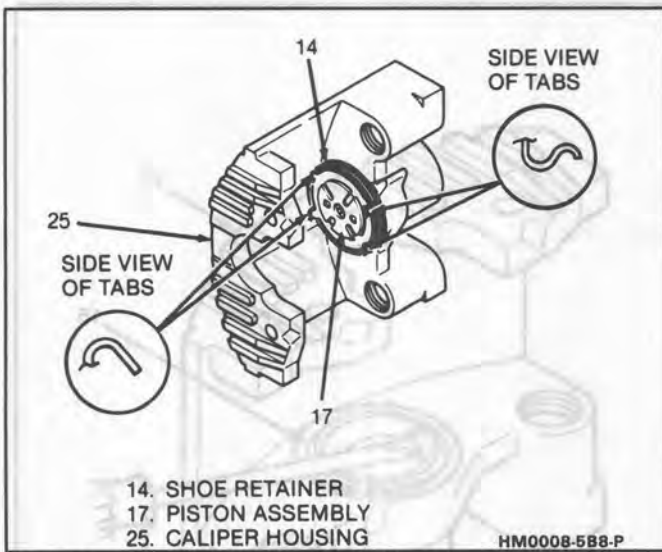

Fig. 8 Positioning of Piston and Shoe Retainer
- From open side of caliper, press in on edge of inboard shoe and tilt outward to release shoe from shoe retainer (14) (Figure 8).